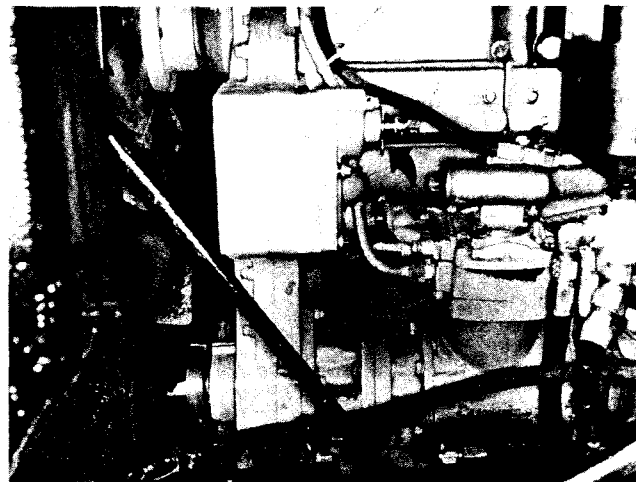

Fig. 2-51, (K11919). Engine barring arrangement — KT/KTA19
**Note:** Do not use the fan to rotate the engine. Remove the shaft retainer clip. Fig. 2-51, and press the shaft inward until the barring gear engages the drive gear; then advance. After the adjustments are complete retract the shaft and install the retainer clip into the safety lock groove.